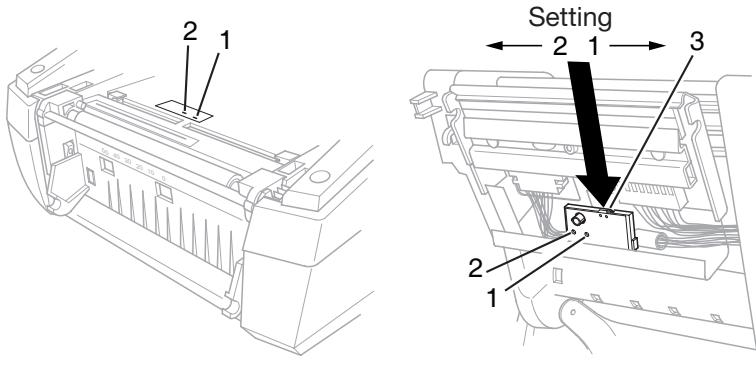

Figure 13, Selecting the Gap Sensor
The printer has gap sensors (**Figure 13, 1** and **2**, receivers in the left picture, transmitters in the right picture) which can detect the start and end of a label. These sensors are controlled by a switch setting (**Figure 13, 3**). The switch can be set to the left or to the right. All Brady IP enabled material will instruct the user, via the front LCD display, which position to set the switch. For non-standard material, set the sensor to position 2. Non-standard notched material is dependent on specific supply criteria.
2. Move the switch (**Figure 13, 3**) to the left or right as required.